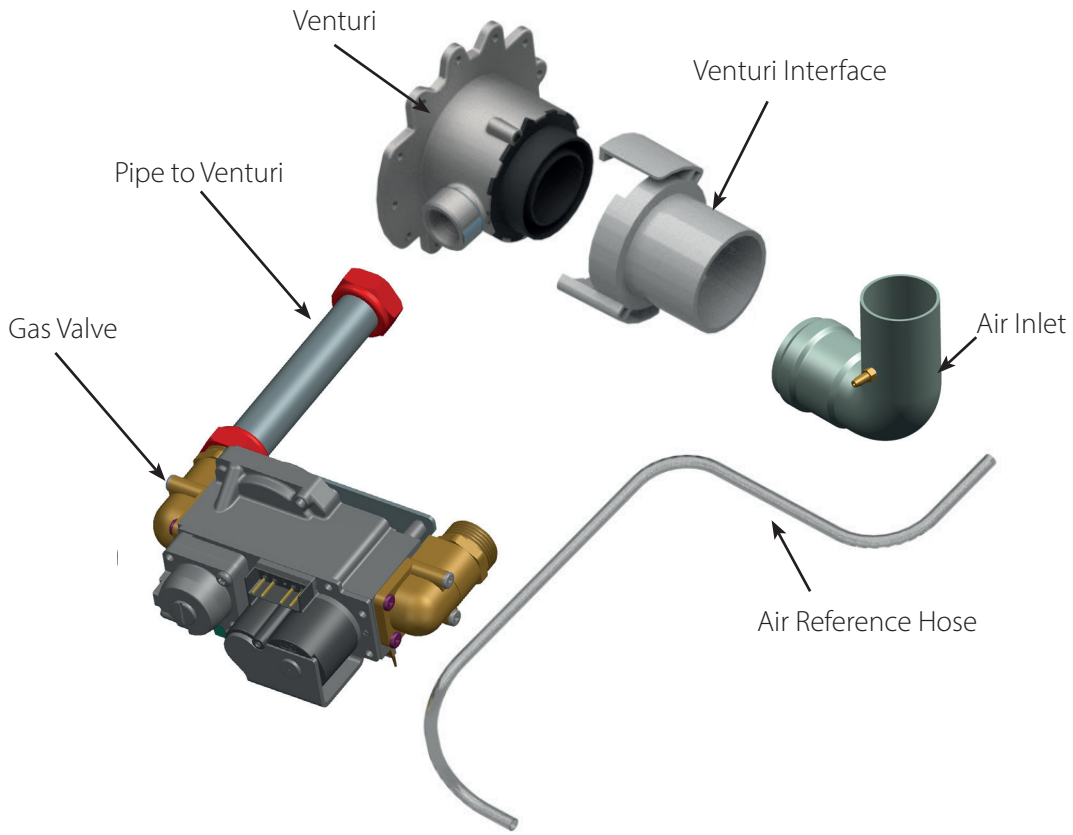

Fig. 24 - Gas Valve / Venturi Assembly - Instinct FSB Solo 110
- Prior to start up, ensure the unit is set to fire propane. Check the rating label for the type of fuel. Check the venturi for propane conversion label. If there is a conflict or doubt on the burner configuration, remove the venturi and check for proper propane gas orifice sizing on venturi labeling. Refer to Tables 1 and 3 below. See Fig. 24, Fig. 25 & Fig. 26 for venturi location. Refer to Propane Conversion Instructions for proper removal and replacement of the venturi.